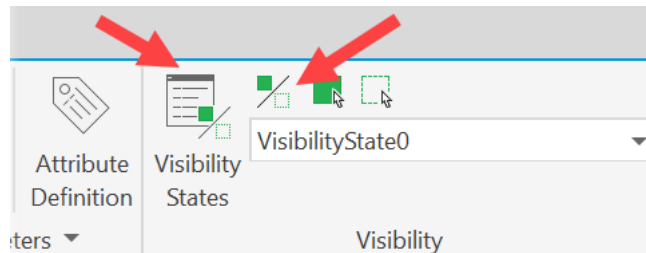
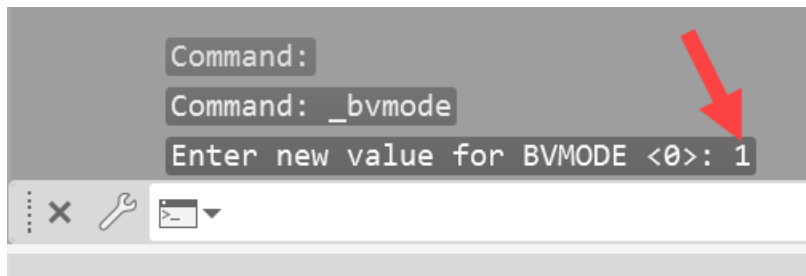

Figure 12.24: The Visibility panel on the ribbon
Figure 12.25: Setting the BVMODE system variable to 1
7. Look at the ribbon. You are in the blue contextual **Block Editor** ribbon tab. Look for the **Visibility** ribbon panel, as shown in *Figure 12.24*.
In *Figure 12.24*, there are two icons arrowed. The right-hand arrow points to the icon that sets the AutoCAD BVMODE system variable, called **Visibility Mode**. Clicking on this icon turns BVMODE either on (**1**) or off (**0**). You will need it on, as any visibility states set to invisible will then appear grayed out, rather than invisible, which is much easier to work with. If BVMODE is set to zero (**0**), you only see the current visibility state. This will become clearer as you go through this workflow. Click on the icon and look at the command line, and if you see BVMODE set to **1**, as shown in *Figure 12.25*, you are all set. If it says zero (**0**), click the icon again to set it to **1**.
8. Click on the **Visibility States** icon shown in *Figure 12.24*.